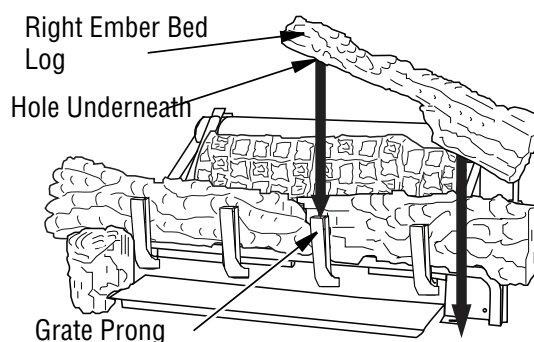

Figure 41 - Installing Right Ember Bed Log
- The right ember bed log 24" & 30" (D-047) has a hole in the log that sets on the grate finger and the other end rest on the fireplace floor, place log as shown in **Figure 41**. The right ember bed logs for 18" (D-072) has a groove on the side that sets on the ember bed pan and the back of the log needs to rest against the front of the base. Make sure the flame from the ember pan does not touch the ember bed log. The back side of this log needs to rest against the front of the base assembly, make sure the flame from the ember pan does not touch the ember bed log.